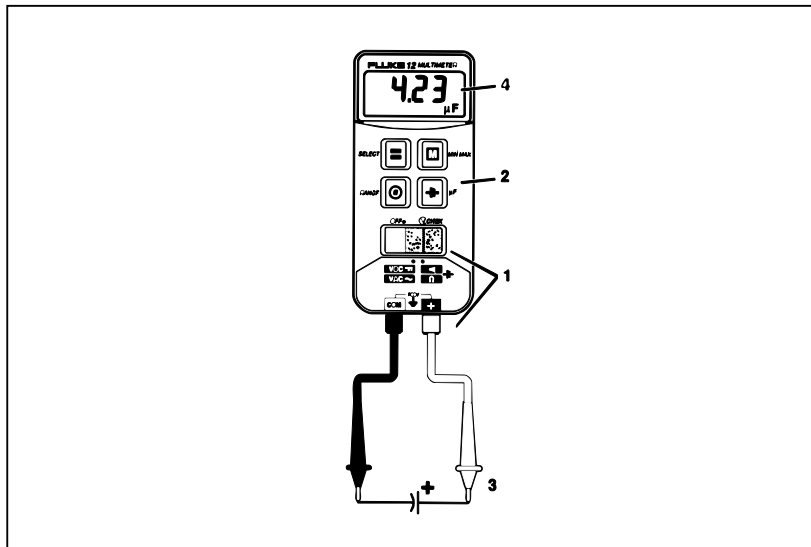

Figure 6. Measuring Capacitance
1. Insert test leads, and move the slide-switch to [F]. (See Figure 6.)